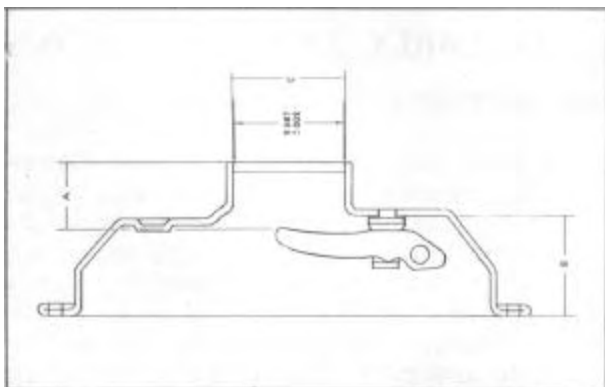

FIGURE 6
3. Using a machinists combination square or depth micrometer, measure the distance from clutch throwout bearing contacting surface of lowest finger to top of cover hub (A) as shown in Figure 6. On a clutch in good condition, the distance should be 1-1/4" to 1-1/2" when the interposed driving plate is .200" to .213" and the gaskets are .028" to .032" uncompressed thickness.
Distance from front face of cover where it contacts the flywheel gasket, to points on front wall of cover where retainer sealing washers fit (B) Figure 6, should not be less than 2.350" and not more than 2.370" measured 1/8" from edge of each of the 3-finger retainer holes.